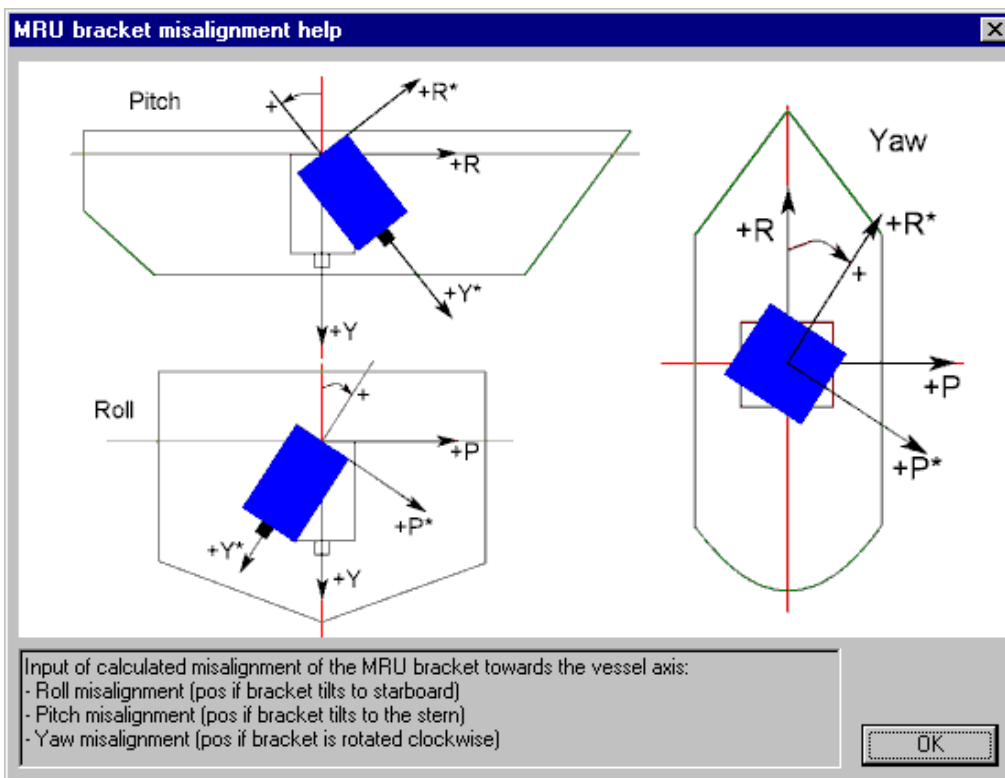

Figure 48 Positive offset angles rotations
- To get more help on the sign of the offset angles, press the **Show MRU bracket misalignment help** button and the window in Figure 48 will appear.